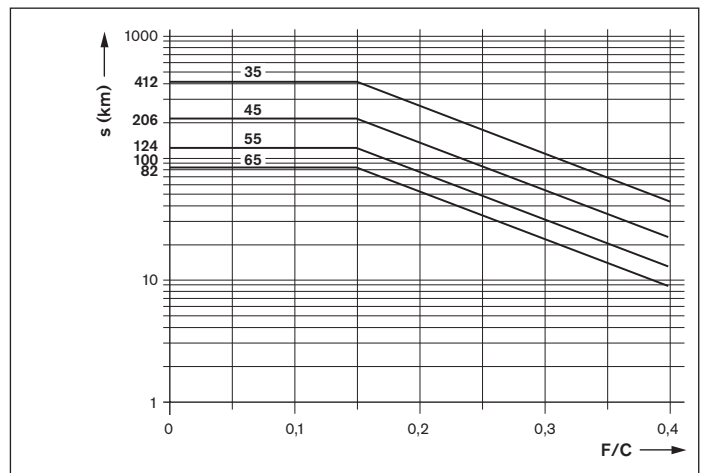

Fig. 2: Relubrication interval
- ▶ Apply the minimum quantity according to Table 4 to the lube port until the relubrication interval as specified (in Fig. 2) has been reached.
- ▶ Apply the minimum quantity according to Table 4 per lube port until the relubrication interval as specified (in Fig. 2) has been reached. Calculate the required pulse count and lubricant cycle time in the same way as for relubrication (normal stroke).
Notes: The required pulse count is the quotient (as a whole number) of the minimum relubrication quantity according to Table 4 and the selected piston distributor size according to Table 5. The smallest permissible piston distributor size is independent of the mounting orientation. The lubricant cycle time as per Formula 1 can then be obtained by dividing the relubrication interval (according to Fig. 2) by the calculated pulse count (see design calculation example).
- s = relubrication interval according to Fig. 2 (km)
- C = dynamic load capacity (N)
- F = equivalent dynamic load (N)